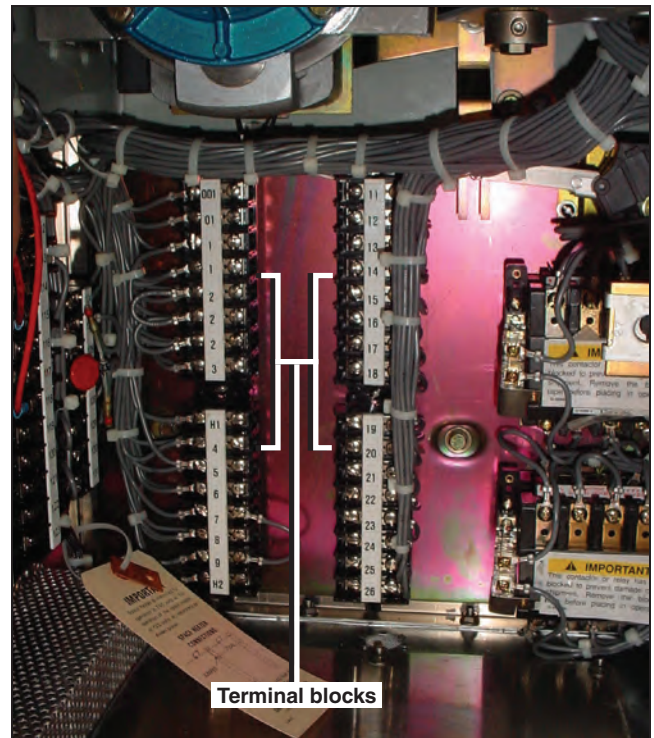

Figure 45. Connect the external control-circuit wiring.
**STEP 3.** Connect the external control-circuit wiring (including space-heater source leads) to the terminal blocks of the switch operator in accordance with the wiring diagram furnished. See Figure 45.